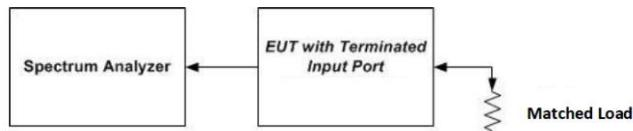

Figure 3 – Noise limit test setup
- a) Connect the EUT to the test equipment as shown in Figure 3. Begin with the uplink output (donor) port connected to the spectrum analyzer. When measuring downlink noise, connect the downlink output (server) port to the spectrum analyzer.
- a. Connect the EUT to the test equipment as shown in Figure 3 with the uplink output (donor) port connected to the spectrum analyzer.